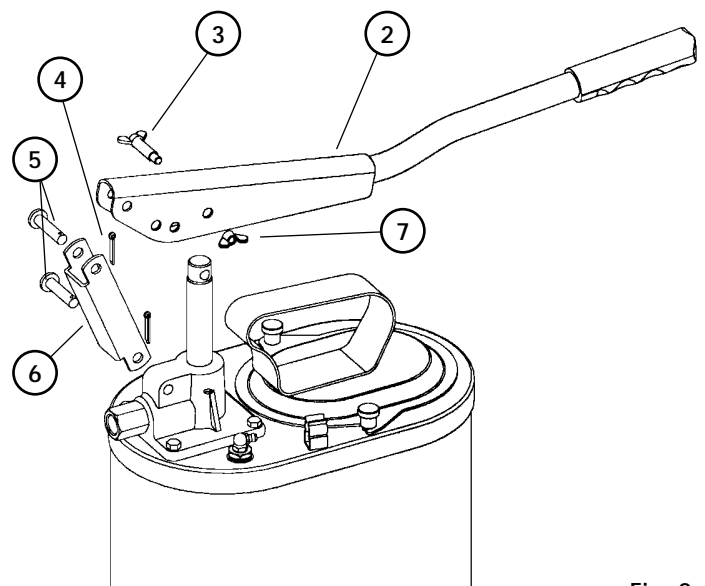

Fig. 2
Assemble the lever (2) and the link (6) as shown in figure 2. Fix the link (6) to the pump body with the pin (5), securing it with the cotter pin (4). Fasten the lever (2) in one of the three holes to the piston using the wing screw (3) and wing nut (7). Assemble the link (6) to the lever (2) with the other pin (5) and cotter pin (4). Thread the outlet hose to the outlet of the pump using a suitable sealing material.
Assembler le levier (2) et la bielle (6) tout comme il est indiqué sur la figure 2.